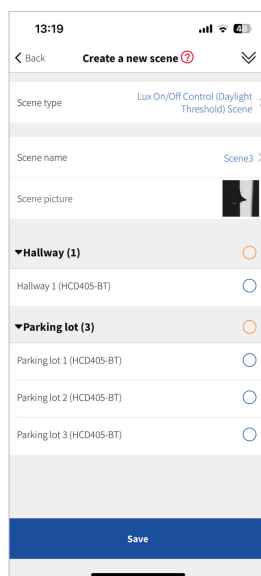

Figure 6.5 Create lux on/off scene
1. Create a Lux ON/Off (Daylight Threshold) Scene (figure 6.5)